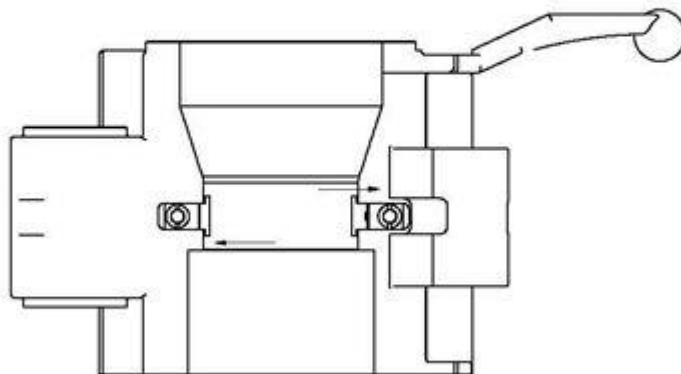

FIGURE 10
- ▶ Slide the lock blocks away from the center of the elevator bore so that the tabs clear the bore of the elevator. Remove the bushings from the elevator by pulling straight out. (See figure 10)